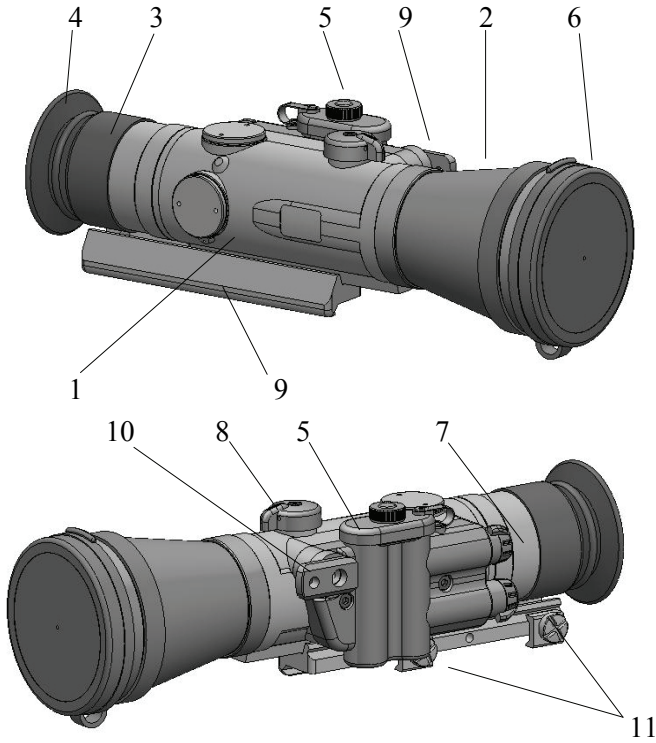

Fig .1
To install batteries unscrew the battery compartment cover 5 (Fig.1), insert batteries, observing correct polarity, and screw the cover back on.
1. Turn switch 7 (Fig.1) into ON position.
3. Turning the focus knob 8 (Fig.1) adjust focus to obtain the sharpest image visible through the eyepiece.
1. Take off the lens cap 6 (Fig.1)
2. Turn on the device using switch 7 (Fig.1)
3. By turning knob 8 (Fig.1) and eye-piece 3 (Fig.1) obtain clear image of the object.
2. Take off the lens cap 6 (Fig.1).
3. Turn on the device using on/off switch 7 (Fig.1). Greenish image must be seen through the daytime scope.
4. Select necessary zoom of the daytime scope. By turning knob 8 (Fig.1) of NVS 22-2XT acquire the target through daytime scope.
- 1) Loosen slightly the Clamp screw 11 (Fig. 1) of the adapter rail.
- 3) Tighten the fixing Clamp screws 11 (Fig. 1)